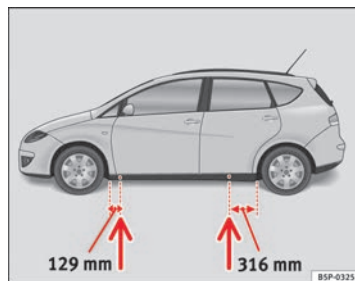

Fig. 179 Jack position points
- Locate the jacking point under the door sill closest to the wheel to be changed → Fig. 179.
Recesses at the front and rear of the door sills mark the jacking points → Fig. 179. A position has been made for each wheel. Do not fit the jack anywhere else.